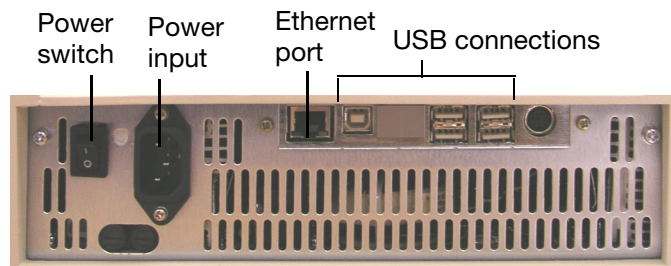

Figure 3. Back panel of C1000 Touch thermal cycler.
The back panel of the C1000 Touch chassis includes these features (Figure 3):
6. Plug the power cord into the back of the C1000 Touch base (Figure 3) and into an appropriate three-pronged electrical outlet.
1. Connect the C1000 Touch thermal cycler chassis to the computer by plugging a USB cable into the USB 2.0 A port located on the back of the chassis (Figure 3) and then connecting the cable to the USB 2.0 B port located on the computer.